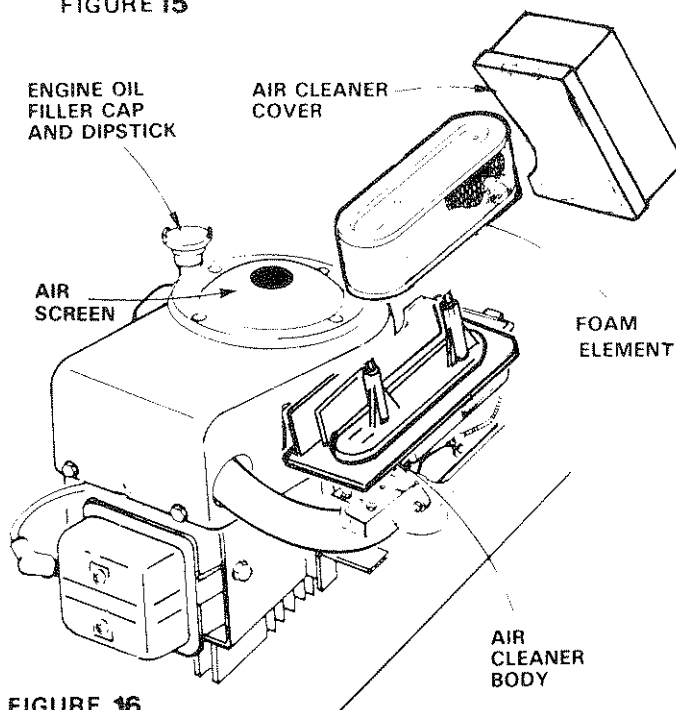
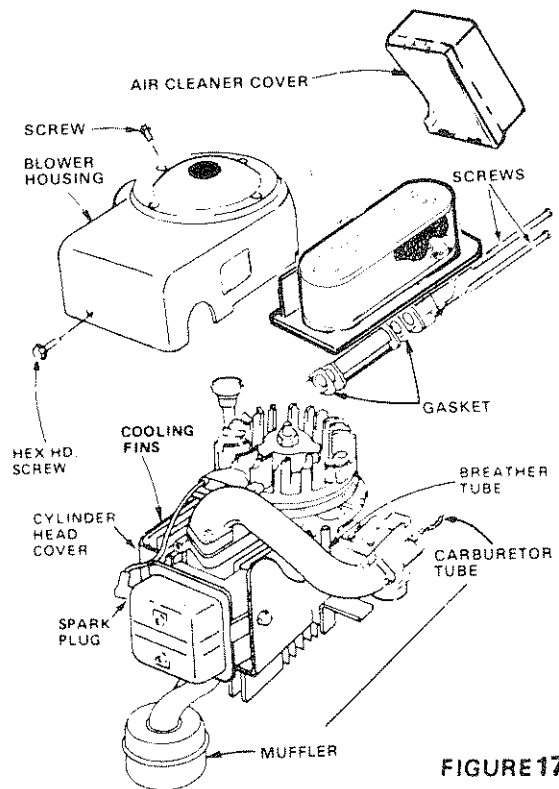

FIGURE 16
FIGURE 17
7. Clean Air Cleaner Element (Fig. 16)
Air screen and cooling fins (Figs. 16 and 17) must be kept free of dirt and chaff to prevent engine damage from overheating. Clean with a wire brush or compressed air to remove dirt and dried gum fibers.
- Remove air cleaner cover (Fig. 16).
- Remove 3 screws securing air cleaner body (Figs. 16 and 17) and remove. (Cover carburetor to prevent entry of dirt.)
- Remove 3 screws from blower housing and lift housing off engine (Fig. 17).
- Use compressed air or stiff bristle brush to thoroughly clean engine cooling fins (Fig. 17) and air screen (Fig. 16).
- Be certain carburetor tube, breather tube, and gaskets are in place (Fig. 17).